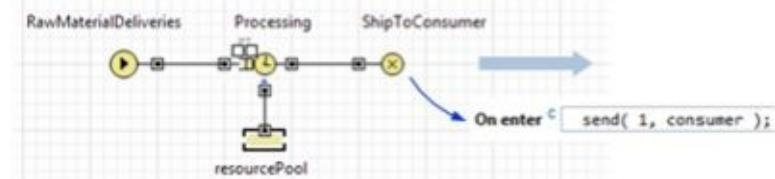

Figure 6.8 Incoming and outgoing messages interact with the DE process inside agent
R. The incoming message injects entities into the DE process. In this example and next process flowcharts are put inside agents. This architecture can be used in supply chain models. In the case Figure 6.8 R the message received by the agent has a meaning of raw material shipment that starts the manufacturing process. In the **On message received** action the agent injects entities into the flowchart by calling the **Source** object function *inject()*. The source object *RawMaterialDeliveries* works in the "manual" mode when it does not generate entities unless *inject()* is called.
S. A process inside the agent initiates an outgoing message. Similarly, in Figure 6.8 S, the manufacturing process ends with the **Sink** object *ShipToConsumer*. When an entity representing the finished product unit gets there, before it disappears from the process, the **Sink** sends out the message using the agent interface function *send()*.